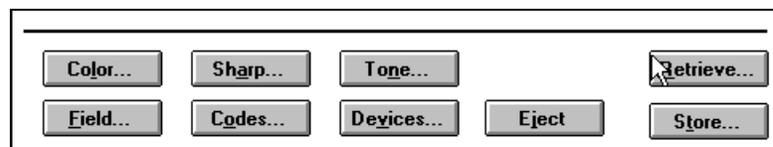

Figure 4-27. Advanced Settings Buttons on Scanner Control Panel
4. Choose the More button to display the Advanced Settings buttons (Figure 4-27).